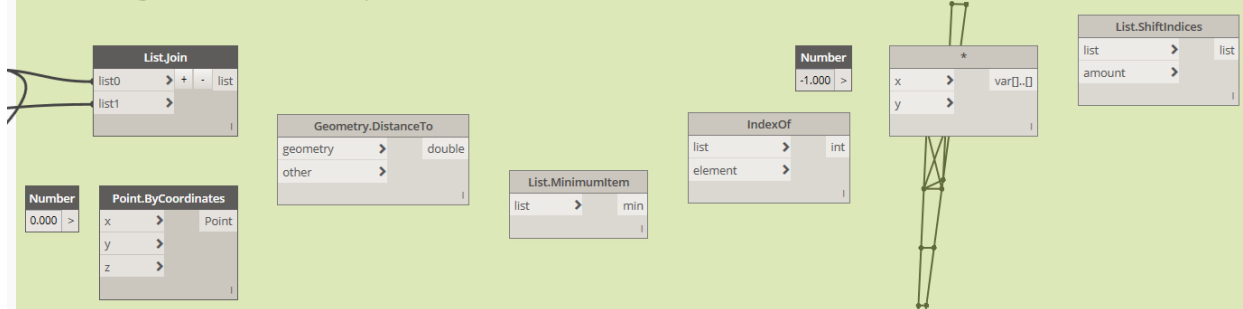

Figure 80
50. Position the nodes as shown in Figure 80.